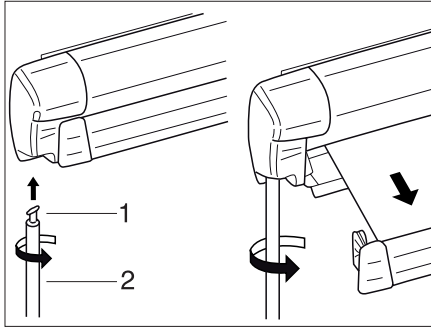

Fig. 21 Awning
- ▶ Insert the hook (Fig. 21,1) of the crank rod (Fig. 21,2) into the lug and turn by 90°.